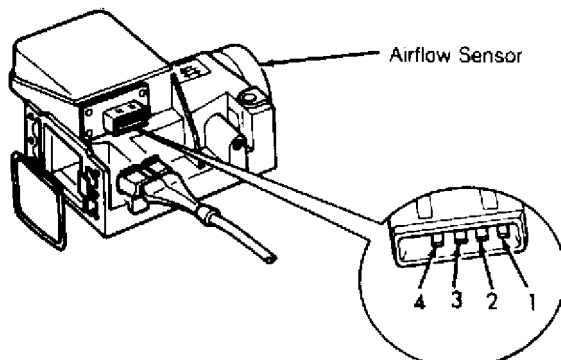

Fig. 2: Identifying AFC-Digifant II Airflow Sensor & Terminals
2) With ignition off, unplug connector from airflow sensor. Attach ohmmeter to airflow sensor terminal. See Fig. 2. Resistance should correspond to AIRFLOW SENSOR PIN CHECK in AFC-DIGIFANT II AIRFLOW SENSOR RESISTANCE table.